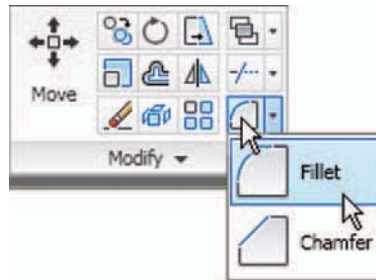

Fig. 5.41 Select **Fillet** from the menu in the **Home/Modify** panel
2. Call **Fillet** – *click* the arrow to the right of the tool icon in the **Home/Modify** panel and select **Fillet** from the menu which appears (Fig. 5.41), *pick* its tool icon in the **Modify** toolbar, *pick* **Fillet** from the **Modify** drop-down menu, or *enter* **f** or **fillet** at the command line which then shows: